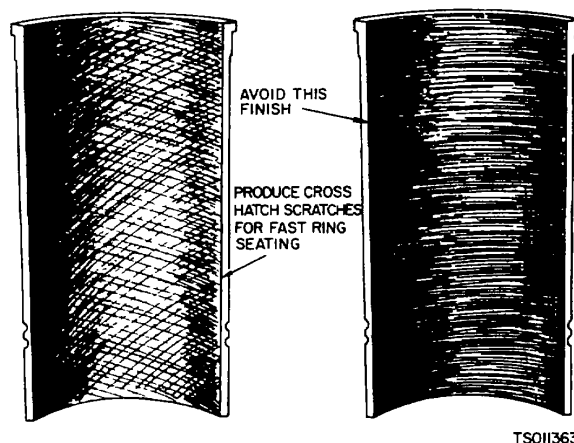

Figure 6-30. Correct Hone Finish
g. When the cylinder is approximately .002 inch (.005cm) within the desired bore, change to fine stones and finish the bore. The finish should not be smooth but as shown in fig. 6-30. The crosshatch formed by the scratching of the stones should form an angle of 23 degrees. This can be achieved by moving the hone up and down in the cylinder about 40 cycles per minute.